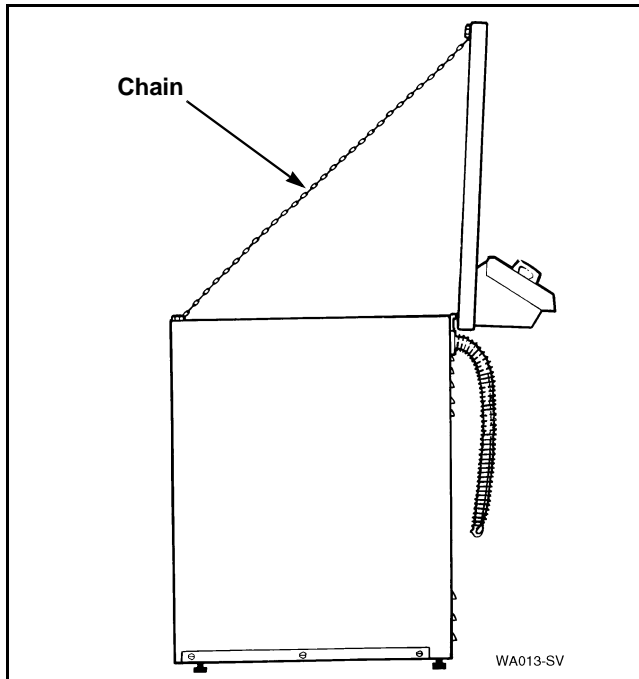

Figure 28
**NOTE:** Cabinet top is self-supporting, or use a small chain to support the cabinet top. Refer to *Figure 28*.